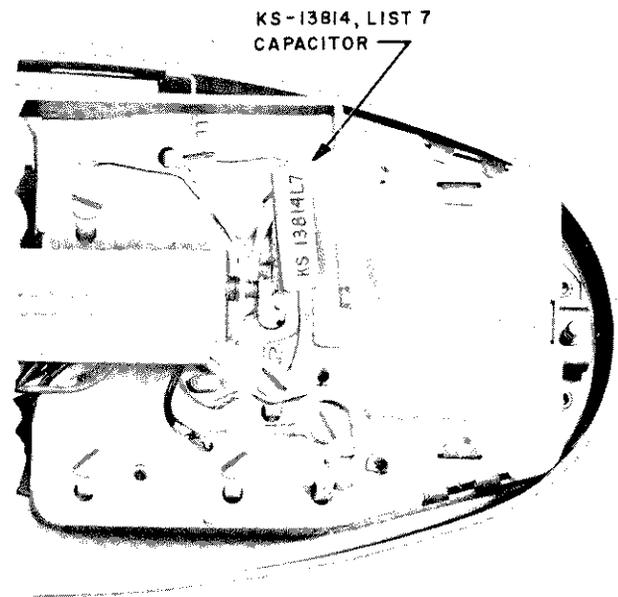

Fig. 10 — 701B or D, 711B Telephone Set, KS-13814, List 7 Capacitor Installed. Dial Removed for Clarity.
4.07 The KS-13814, List 7 capacitor is installed in the 701B, 701D, and 711B telephone sets as shown in Fig. 10. It is connected between the F and C terminals of the 495A network. Cover the exposed portion of the capacitor leads with tubular insulation.